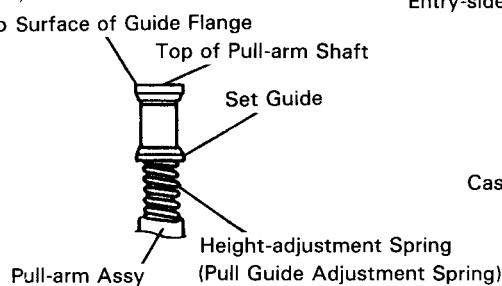

Fig. 3-1
- Turn the guide flange on the pull-arm assy until the top surface of the flange is aligned with the top of the pull-arm shaft. (Refer to Fig. 3-1.)